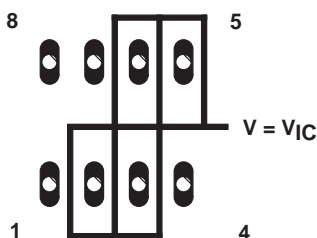
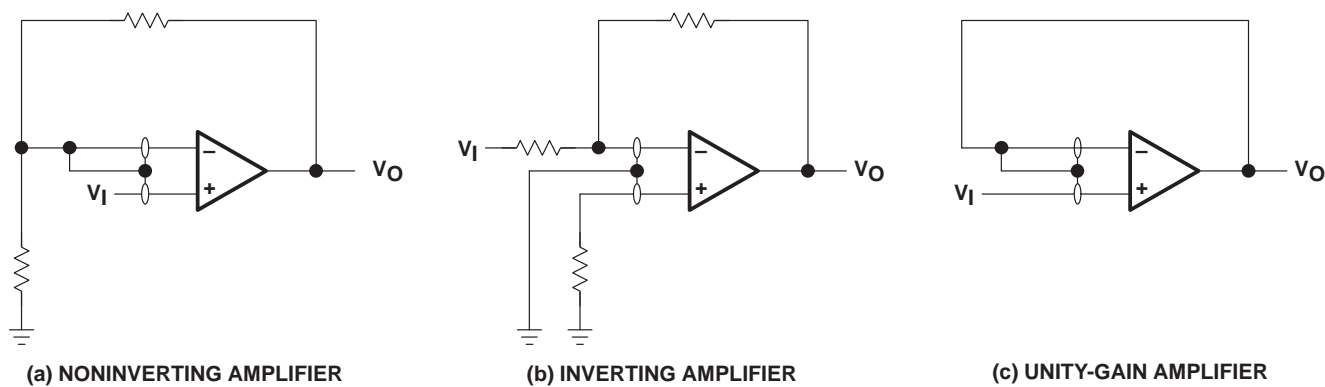

Figure 29. Isolation Metal Around Device Inputs (P package)
Figure 33. Guard-Ring Schemes
1. Isolate the device from other potential leakage sources. Use a grounded shield around and between the device inputs (see Figure 29). Leakages that would otherwise flow to the inputs are shunted away.
Because of the extremely high input impedance and resulting low-bias current requirements, the TLC2810Z is well suited for low-level signal processing; however, leakage currents on printed-circuit boards and sockets can easily exceed bias-current requirements and cause a degradation in device performance. It is good practice to include guard rings around inputs (similar to those of Figure 29 in the Parameter Measurement Information section). These guards should be driven from a low-impedance source at the same voltage level as the common-mode input (see Figure 33).